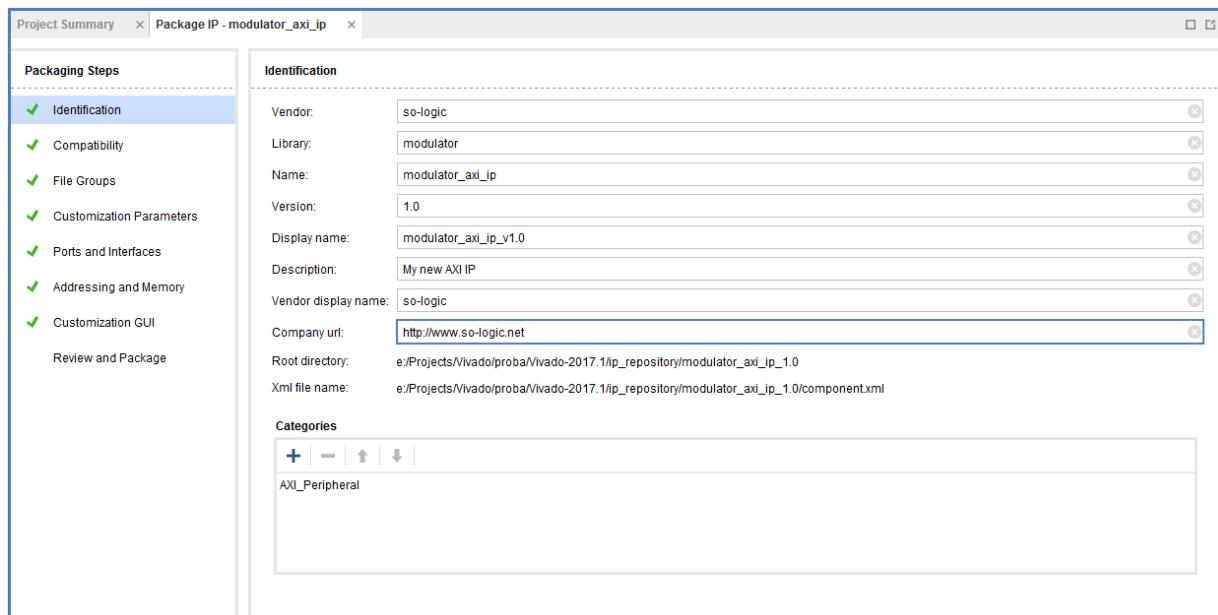

Figure 12.73: Identification window
13. In the **Package IP - modulator_axi.ip** window, in the **Identification** section, fill some basic information about your new **modulator_axi.ip** IP, see Figure 12.73.